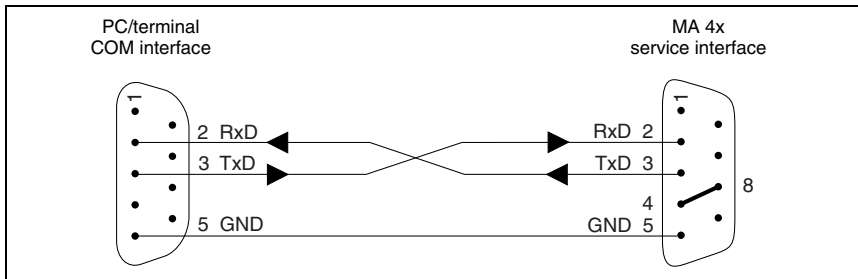

Figure 8.1: Boot cable for MA 4x DP-k
- Under the **Online** → **System** → **Bootstart** pull-down menu, the notice "The system will be reset..." appears which can be confirmed with Enter after reading. The Esc key interrupts the process. After confirming, the message "Wait for hardware receipt" (see figure 8.1 on page 74) appears on the screen.